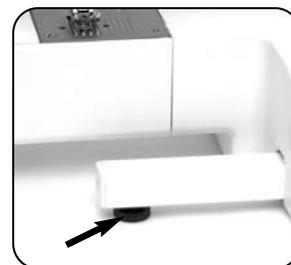

Fig. 8
1. Remove the free arm to access the screw under the leveling bar [Fig. 8].